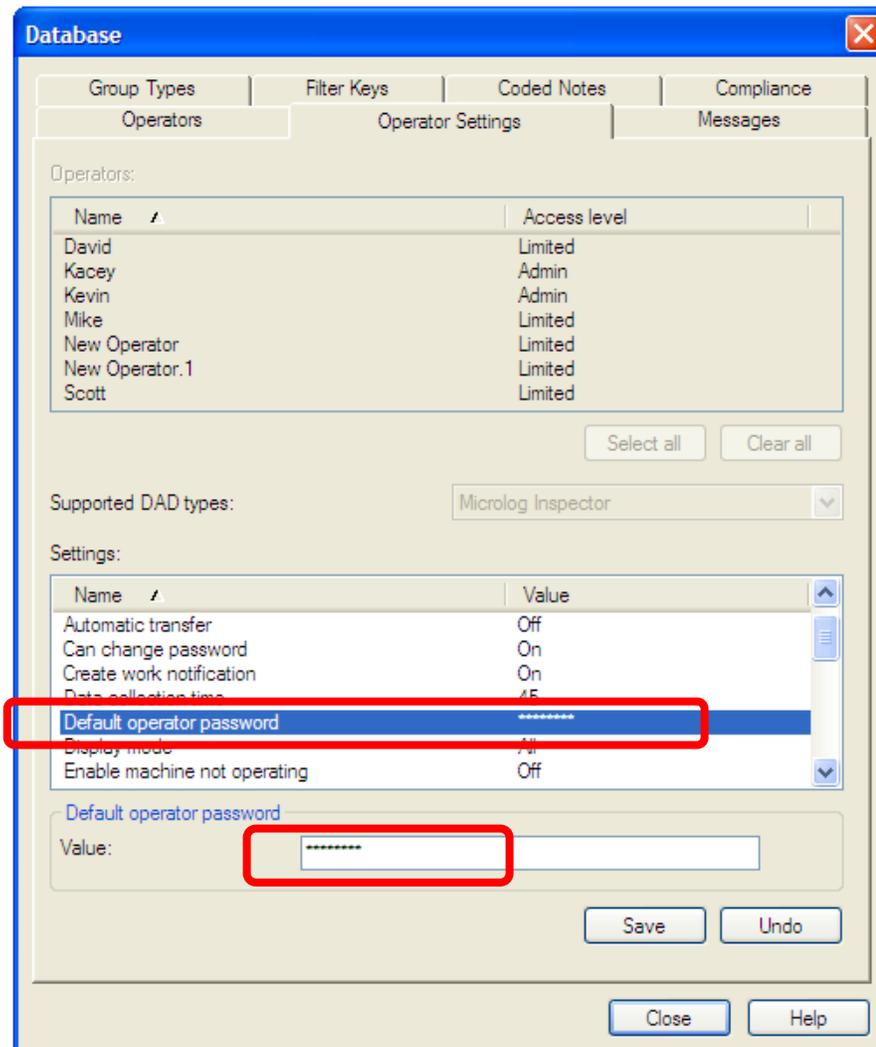

Figure 5. Default operator password
- Next, highlight **Default operator password** and change the **Value** to the desired password. [Figure 5] This value will become the new password for the selected operator.